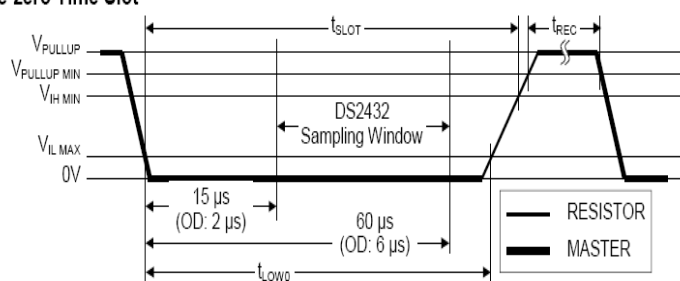

Fig4-96 - Write-zero Time Slot
- (1) To initialize Write Data, Master will convert the Data Line from the high logic to the low.
- (2) There are two types of Write time slot: Write 1 time slot and Write 0 time slot.
- (3) During a write cycle, all Write time slots must have duration of at least 60us and a recovery period of 1us.
- (4) When the I/O line goes down, Slave devices create samples from 15-60 us.
- A. Write 0: If the sampling is low, 0 is generated as in Fig4-96: